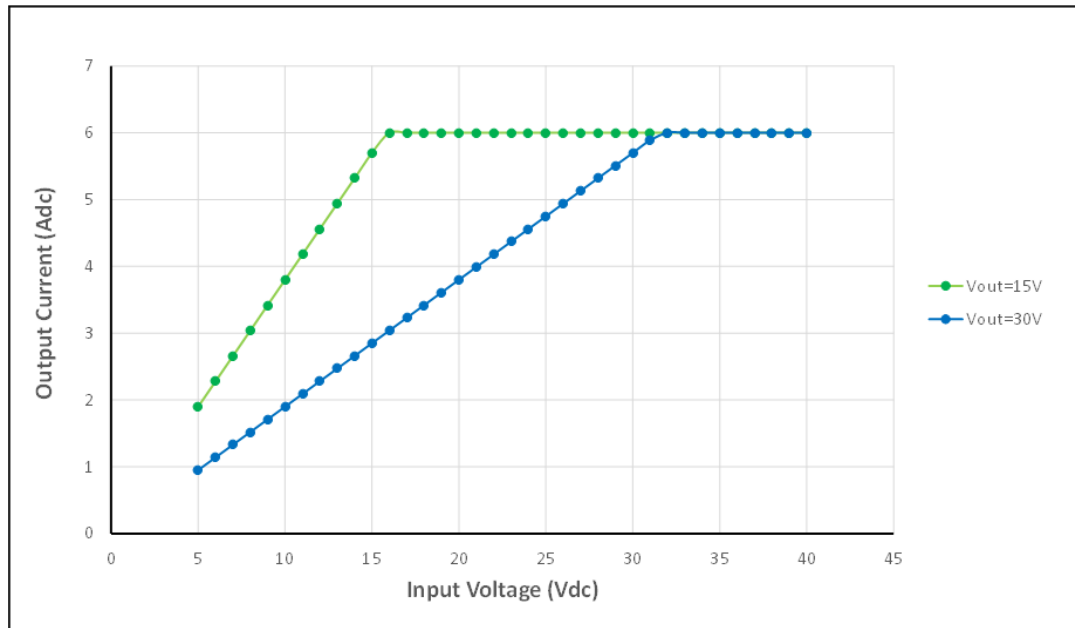

Figure 6. EPC7C020 Evaluation Board Maximum Output Current versus Input Voltage and Output Voltage.
Figure 6 shows the maximum output current for the EPC7C020 board for $V_{out} = 15V$ (green) and $V_{out} = 30V$ (blue) for input voltages of 5 to 40V. It can be seen that the 15V output case reaches the 6A maximum current rating for input voltages just above 15V, while the output current never reaches the 6A level at the maximum input voltage for the 30V output.
1.) The following test equipment is recommended to properly evaluate the EPC7C020 Eval. Board as shown in Figure 6: